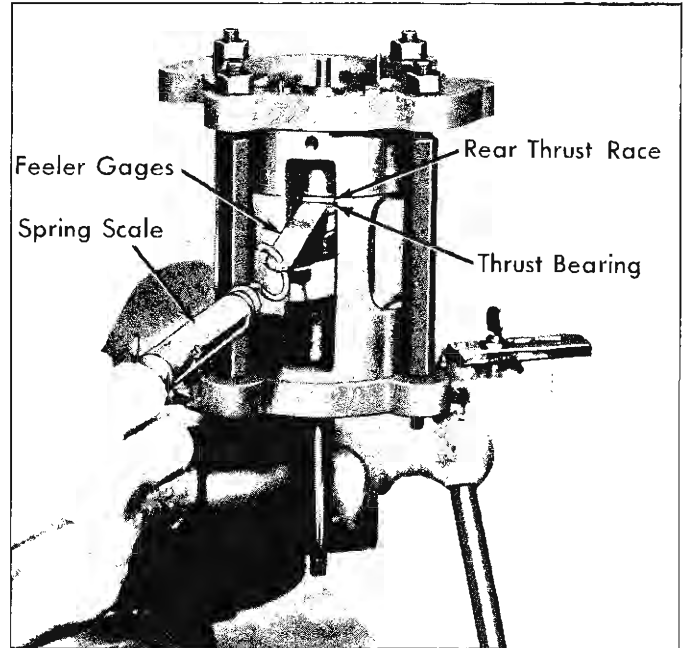

Fig. 35—Checking Clearance between Rear Thrust Bearing and Outer Thrust Race
14. The next gauging operation is to determine the space between the REAR thrust bearing and the upper (outer) rear thrust race. Use a suitable combination of feeler gauge leaves so that 4 to 8 oz. of force is required to pull gauge free (fig. 35). Select a numbered thrust race to correspond to this feeler gauge reading and place this race in parts tray in the rear thrust race compartment.